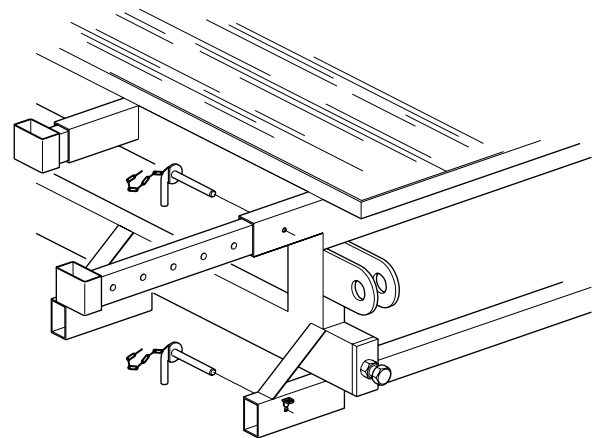

Fig.6-16 Outrigger platform extension
1. Pull out the outriggers to the required height and secure them with locking pins. See fig.6-16.